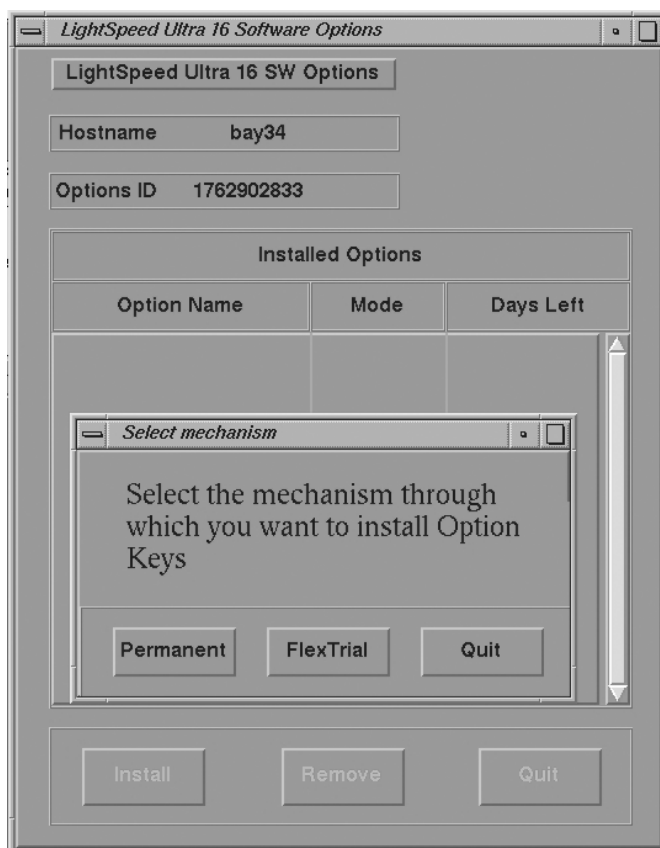

Figure 8-6 Options Window when First Selected
- 4.) Select INSTALL OPTIONS and click START. The console displays the Software Options window as shown in Figure 8-6.
- 13.) Click on the ACCEPT button. The system will check valid setup entries, execute a perl script that makes changes to the configuration files for HIS/RIS, and return to the Software Option window shown in Figure 8-6.